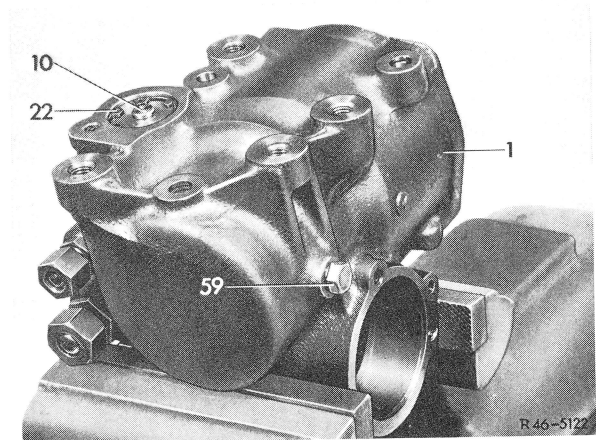

Fig. 22
26 Remove locking ring (22) from steering case (1) (Fig. 22).